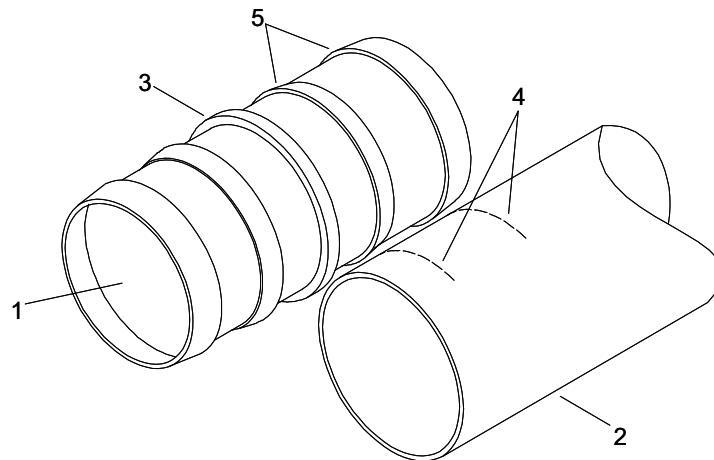

Figure 7. Hose Assembly Repair.
18. Using the hose splice (Figure 7, Item 1) as a guide, align the cut end of one section of hose assembly (Figure 7, Item 2) with the machined stop (Figure 7, Item 3) in the center of the hose splice (Figure 7, Item 1).
19. Using a marking pen, mark two lines (Figure 7, Item 4) on the hose assembly (Figure 7, Item 2) where the hose barbs (Figure 7, Item 5) will be located.